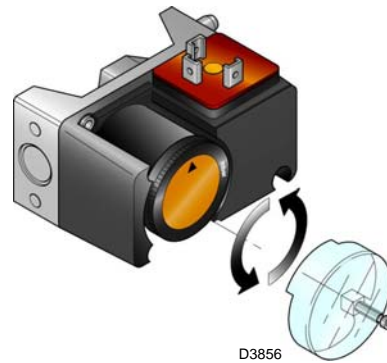

Fig. 35
- Adjust the maximum gas pressure switch (Fig. 35) to the end of the scale.
Adjust the maximum gas pressure switch after having performed all the other burner adjustments with the maximum gas pressure switch set at the end of the scale (Fig. 35).